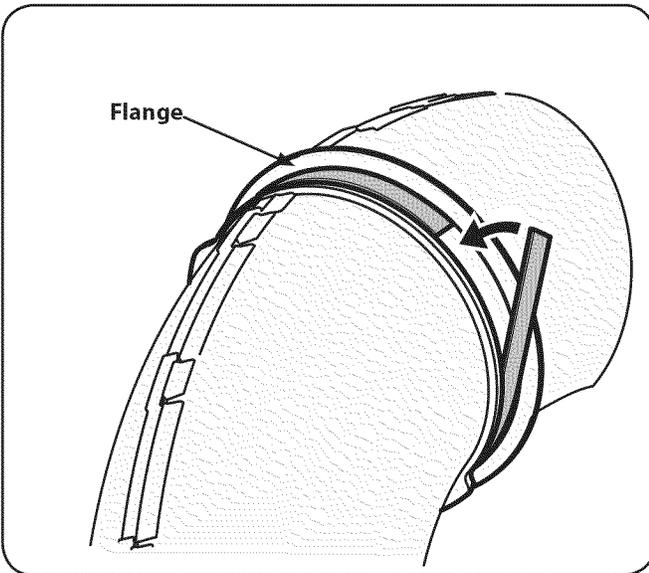

Figure 4-20
4. Peel the backing off of the self-adhesive foam strip (721-04388) that has been included with your grass collector. Apply it to the upper chute, flush against the flange as shown in Fig. 4-20.